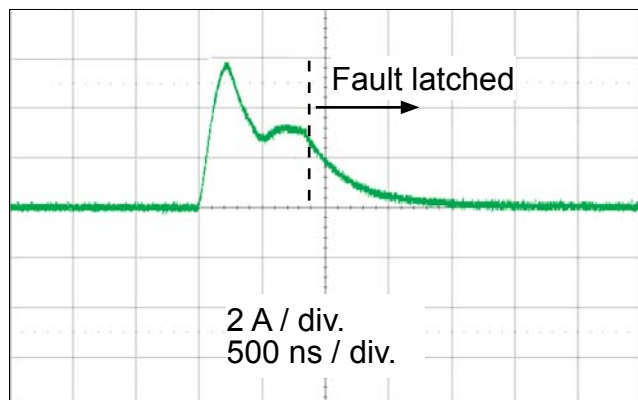

Figure 6. Short-to-ground event
**Short-to-Ground** Should a motor winding short to ground, the current through the short will rise until the overcurrent threshold,  $I_{\text{COPST}}$ , a minimum of 2 A, is exceeded. The driver turns off after a short propagation delay and latches the fault. The device will remain disabled until the SLEEP/RESET input goes high or VDD power is removed. As shown in figure 6, a short-to-ground produces a single overcurrent event.